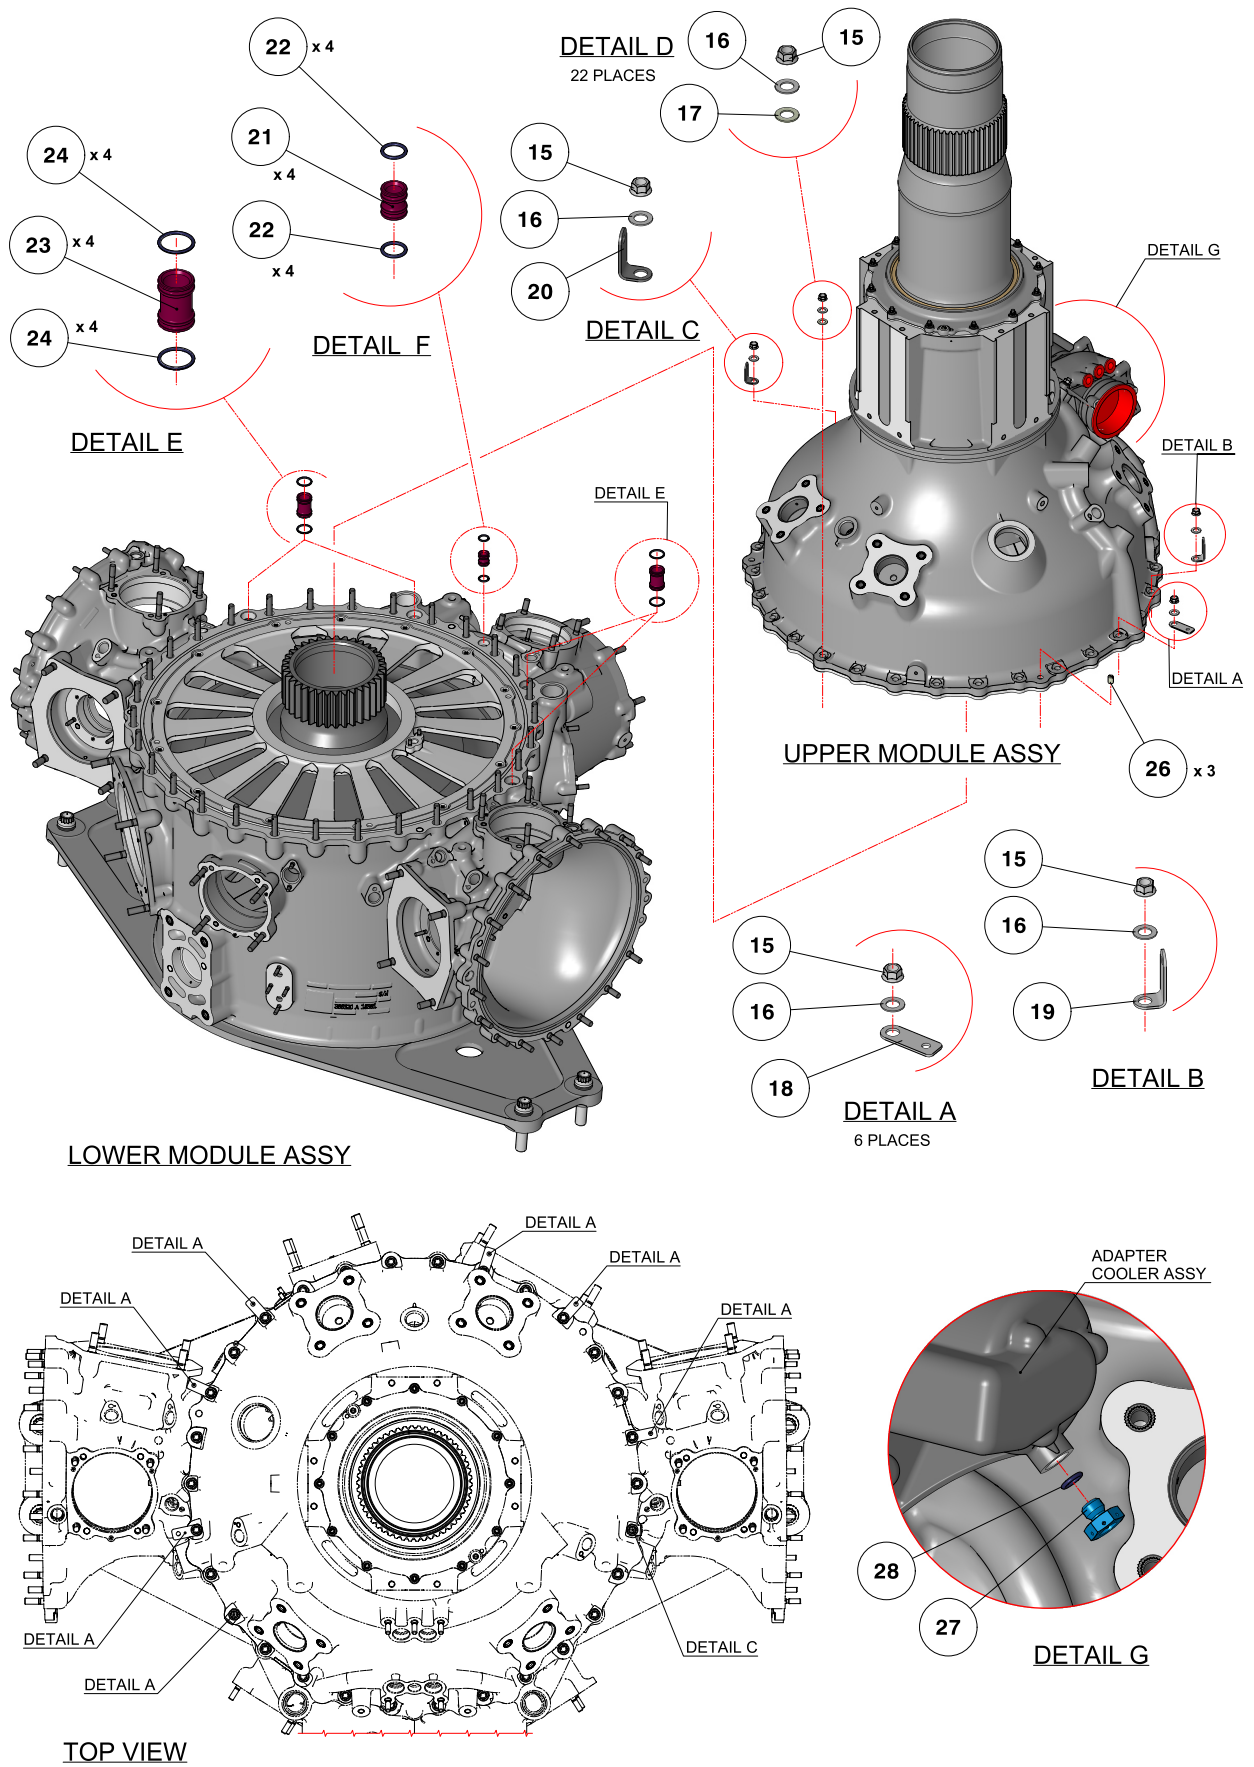

Figure A2
- 18. With reference to Figure A2, install the upper module assembly as described in the following procedure:
- 18.9 With reference to Figure A2, install the six brackets (18) and the brackets (19) and (20), using nuts (15) and washers (16), (17), according to details A, B, C and D. Torque the nuts to 24.5÷25.5Nm (217 thru 226 lbf in) gradually and in a cross sequence.
- 18.10 With reference to Figure A2, install the nylon screws (26) with an over-torque of 60° ÷ 120°.
23. With reference to Figure A2 detail G, lubricate with Parker “Super O-Lube” the packing (28) and put it on the plug (27). Apply a small quantity of grease MIL-PRF-81322 on the plug (27).
24. With reference to Figure A2 detail G, install the packing (28) and the plug (27). Torque the plug (27) to 4.4 thru 4.8 Nm. Safety the plug (27) to the main case assembly with the lock wire.